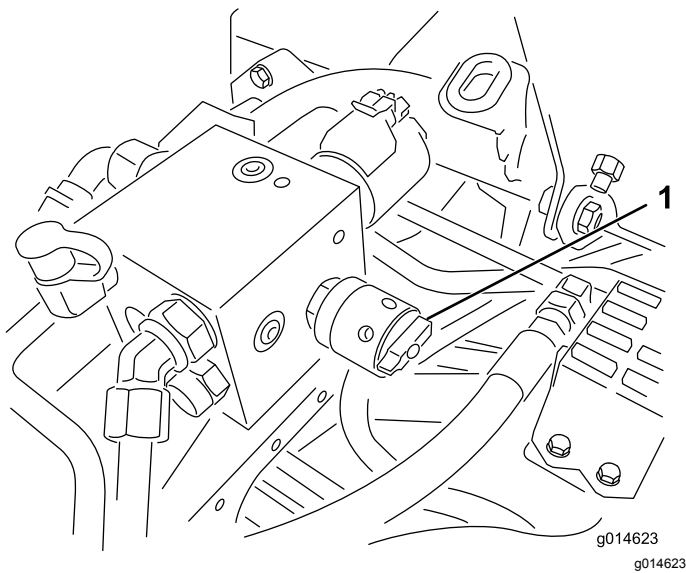

Figure 50
6. Rotate the reel-speed control to setting 1 (Figure 50).